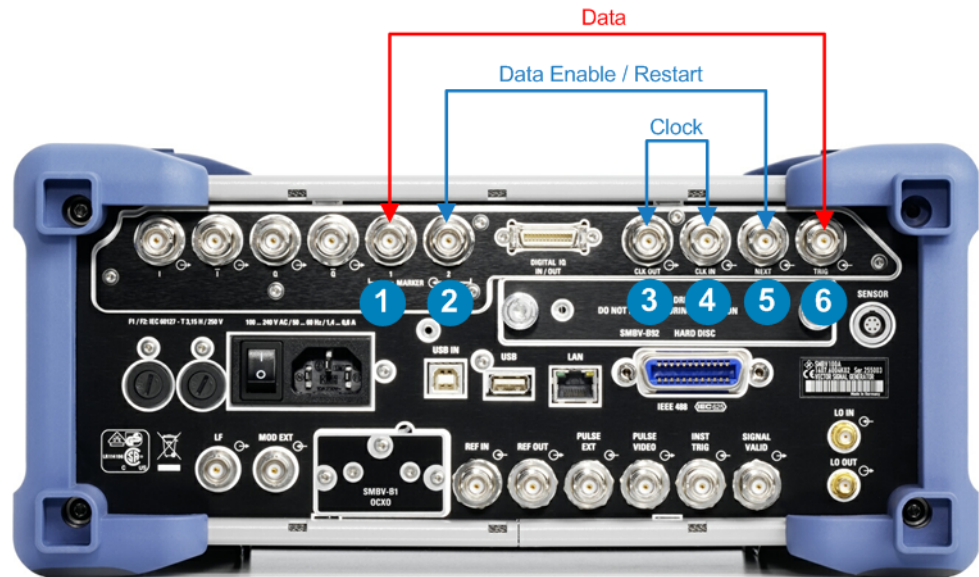

Figure 5-7: Test generator cabling
The test setup requires that you loop back the signals as shown in Figure 5-7.
- ▶ Remove the clock out connection (Figure 5-7, \(3\)).
- ▶ Remove the data connection (Figure 5-7, (6)).